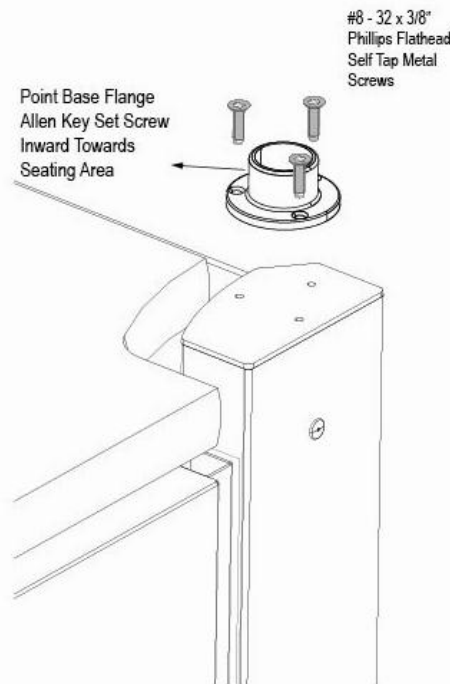

Figure 8: Attach Base Flange Components to Left and Right Metal Top Posts – Point Allen Key Hole Toward Seating Area
- Using a #2 Phillips Head Screwdriver and three #8 – 32 x 3/8" Metal Flathead screws provided in the installation kit, attach each Base Flange component to the Metal Top Covers previously installed. When attaching the Base Flange components, make sure the Allen Key hole on the Base Flange is facing inward towards the seating area as shown in **Figure 8**.